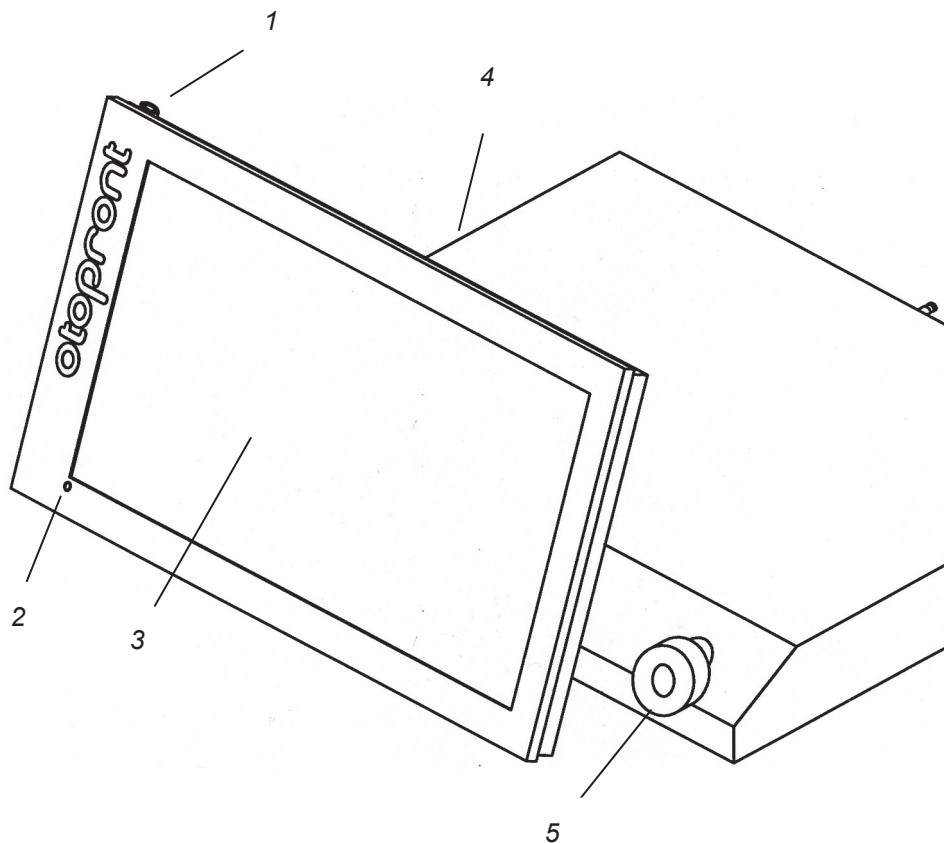

Fig. 3: Front view Endoscopy System PES Pilot HDpro
- 8.) On the left side of the device is a USB 2.0 plug for a USB stick (Fig. 3 (4)).